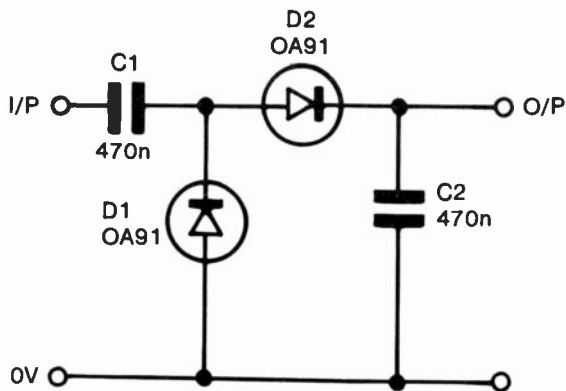

Fig. 67 Circuit diagram of Module 38.
**Circuit diagram:** see Figure 67.